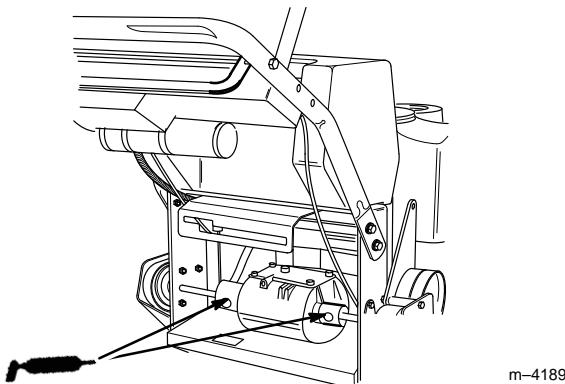

Figure 32
2. Lubricate the transmission couplers (Fig. 32).